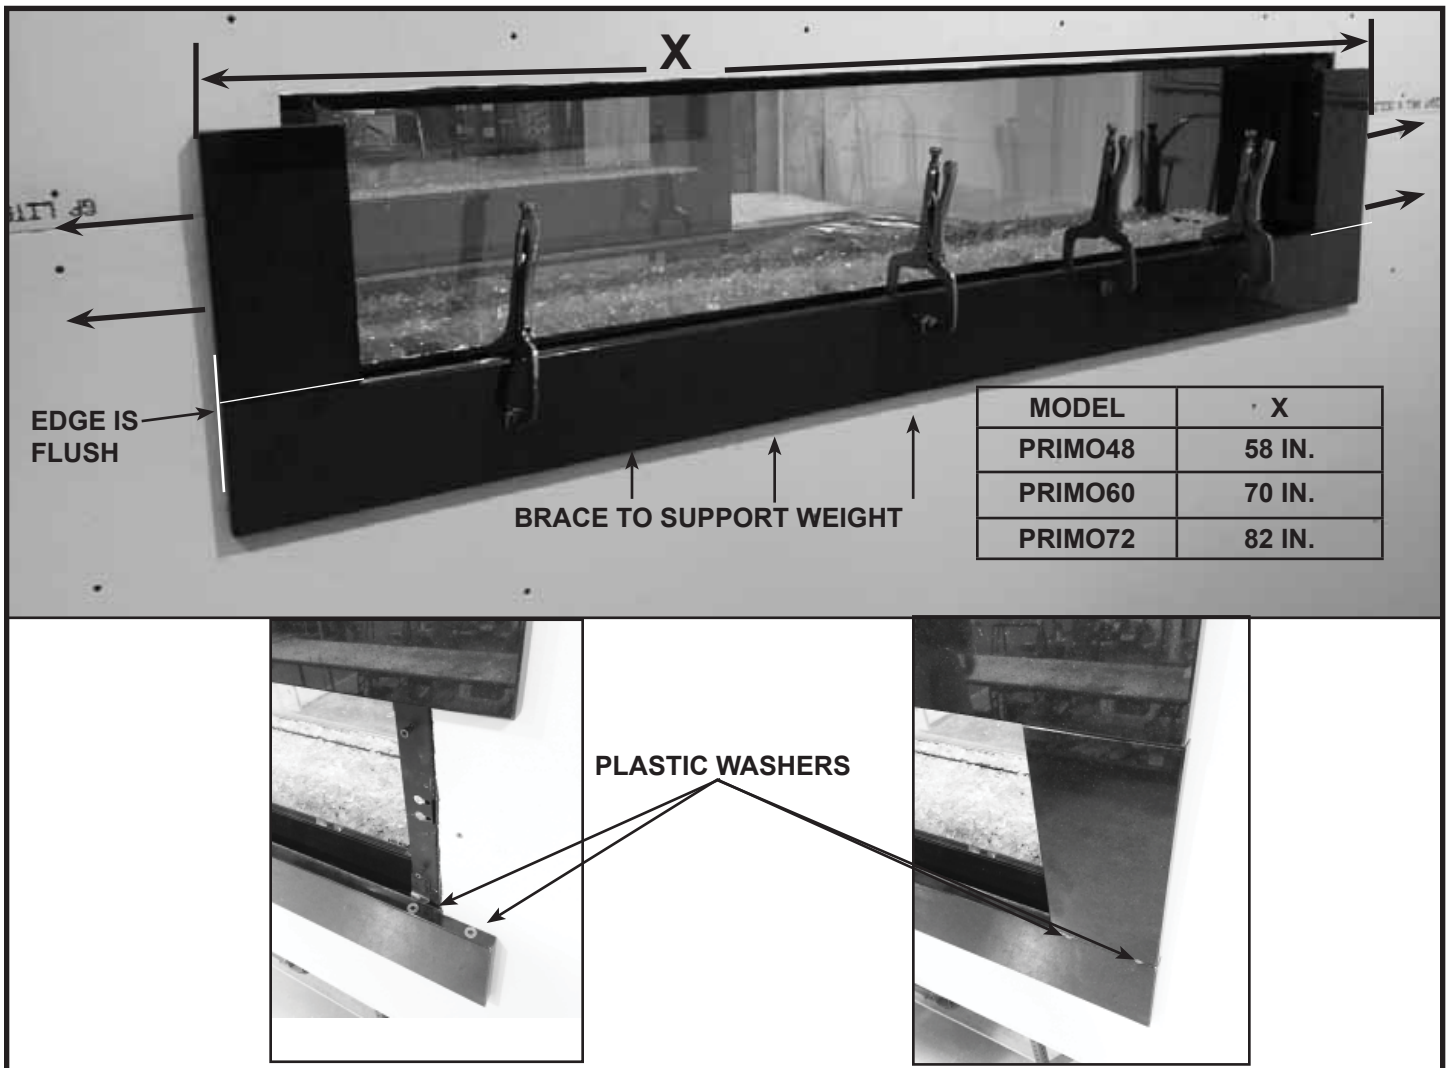

Figure 13. Bottom Granite Piece Installed
- Slide both side granite pieces outward as shown in Figure 13. Verify dimensions in Figure 9, 11 and 13.
- Place plastic washers as shown in Figure 13. The washers serve as spacers for granite placement. If washers are not used, the side granite will be difficult to remove.
- Align the top edge with the bottom of the left and right outside pieces so the edges of the bottom piece are flush with the side pieces. See Figure 13. Secure the bottom granite in place with clamps or braces. See Figure 13. Do not remove supports or operate fireplace for 24 hours.